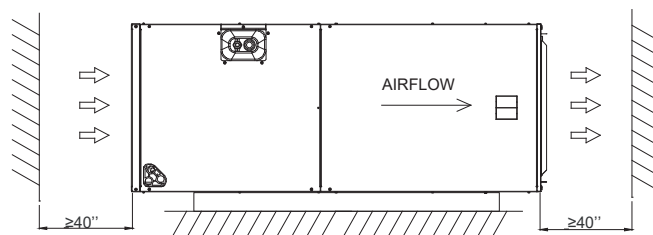
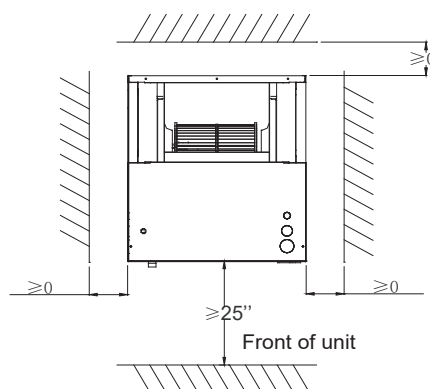

Fig.2 CLEARANCES IN THE HORIZONTAL POSITION
Fig.3 CLEARANCES IN THE VERTICAL POSITION
Ensure enough space maintained for installation and maintenance. See Fig.2 and Fig.3.
- Low voltage control connections are made to low voltage pigtails extending from top of air handler (upflow position - see Fig3).